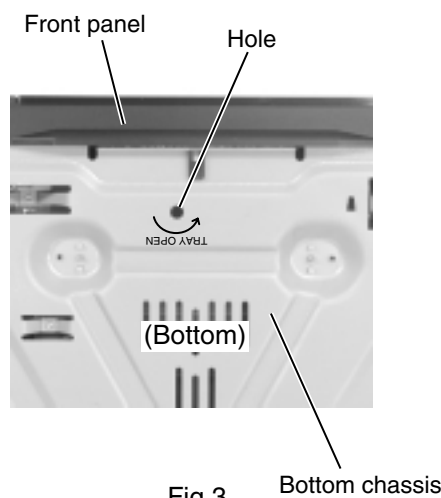

Fig.3
■ Removing the fitting (See Fig.3 to 6)
**■ Removing the loading motor / loading motor board (See Fig.3 and 4)**